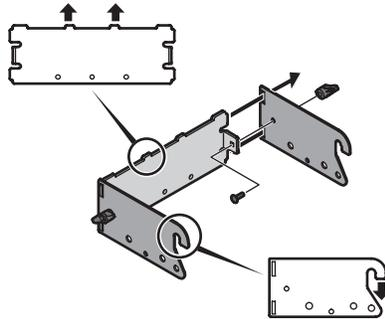

Figure 1
1. Attach the two hitch side brackets to the universal support bracket (783-08129) using two carriage bolts (710-0276) and wing knobs (720-04122) from hardware pack 689-02364. See Figure 1.
NOTE: The hooks on the side brackets should point downwards and the tabs on the rear plate point upwards as shown in Figure 1.